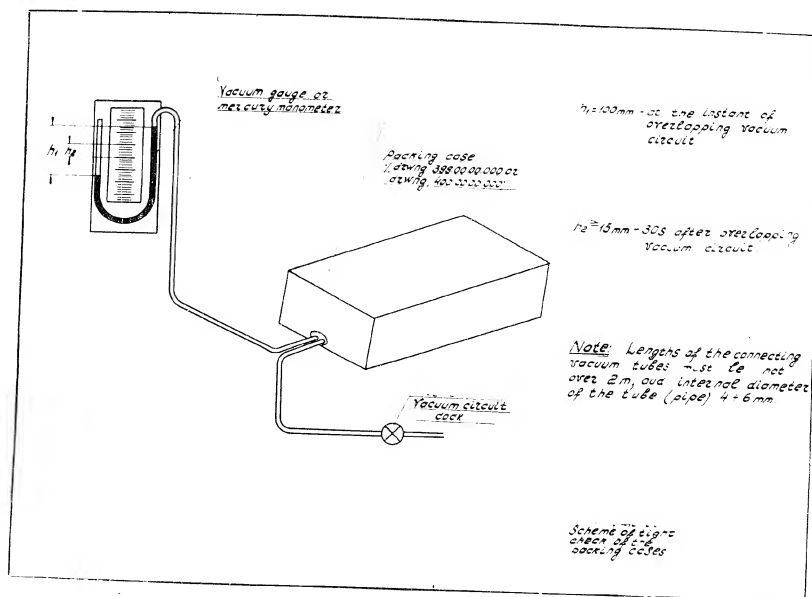

Fig. 6 Testing the Packing Cases for Flight.
Install the  $\Pi-4$  servo units (1) on the mounting (1, Fig. 6) and secure each unit by 4 bolts with nuts.
Before installing the mountings, place on the mounting with H-4 servo units and H-10MO timer two bags (5) with "KCM" silica gel dehydrator, 200 grm. each and the bag (6) with a blue silica gel - indicator, 15-20 grm. The bags must be placed so that they are not moved during transportation. It is permitted to tie the bags to the cables with linen threads or secure them by tapes with buttons (Fig.6).
3. If a special cartridge with silica gel-indicator is installed in the case, the bag (6) with silica gel-indicator must not be placed in the case.